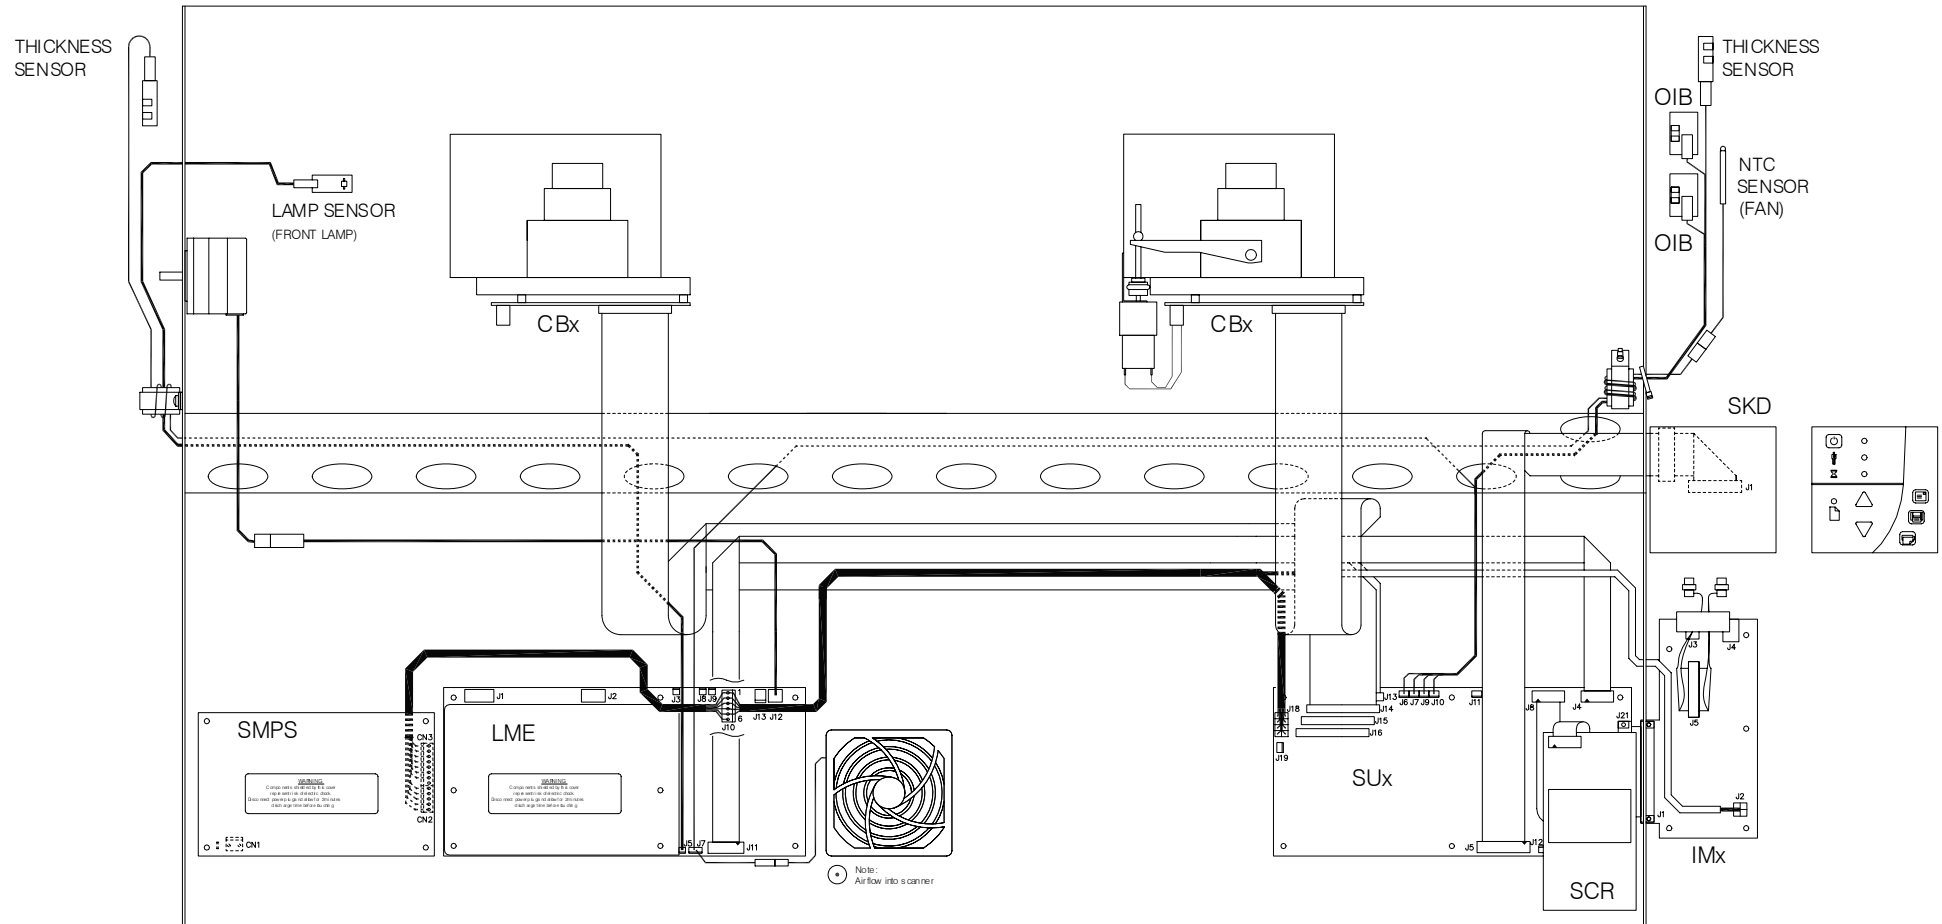

Fig. 11-6 COUGAR 36 Secondary Wiring
- Fig. 11-6 COUGAR 36, Secondary Wiring, page 184